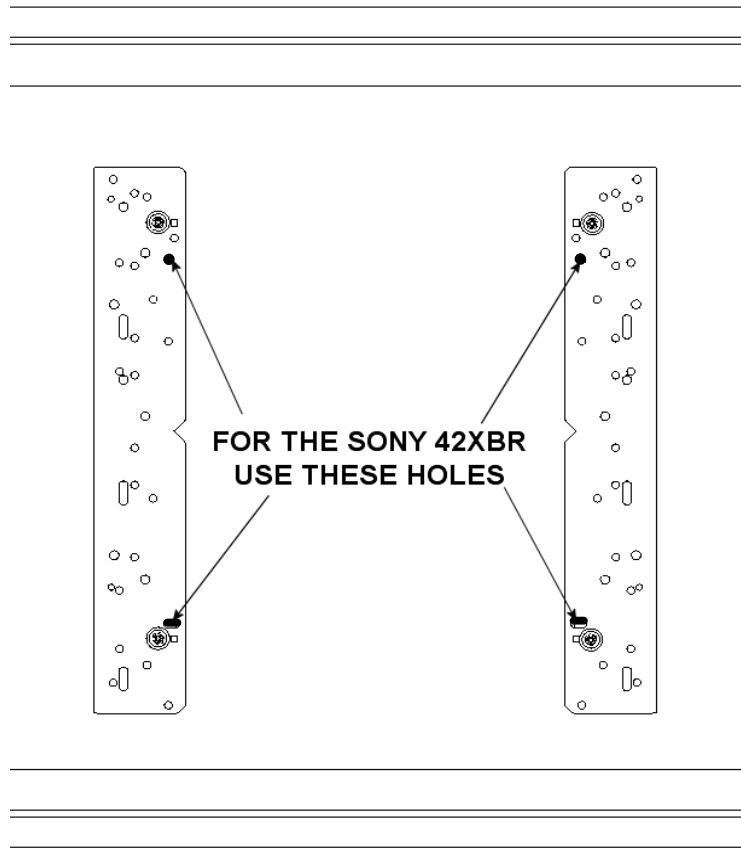
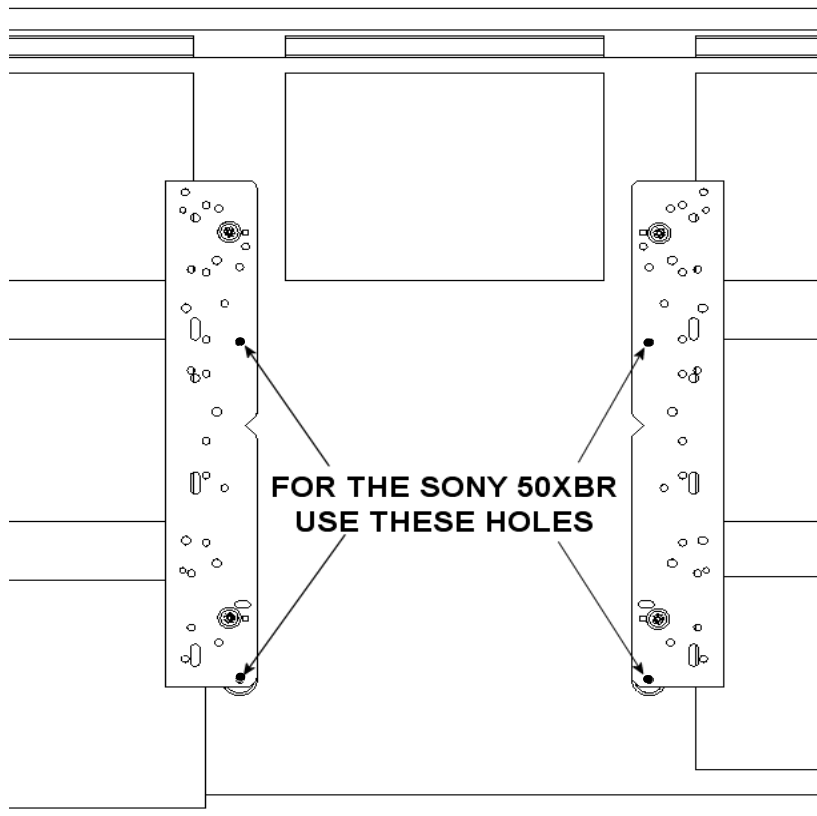

Figure 26. Bracket Attachment for 42" Display
Figure 27. Bracket Attachment for 50" Display
4. Place the interface brackets over the Nylon spacers for either the 42" (see Figure 26) or 50" (see Figure 27) Large Flat Panel display.
6. Using the hardware in the parts bag labeled F, secure the interface brackets to your Large Flat Panel display (see Figure 26 or Figure 27). Do not overtighten the mounting screws.